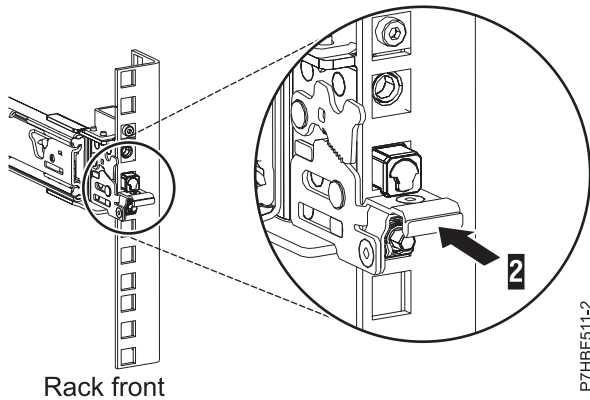

Figure 7. Front rail of the rack with the latch seated
5. Push the front latch (2) in all the way. Make sure that the latch is fully seated, as shown in Figure 7 on page 8.